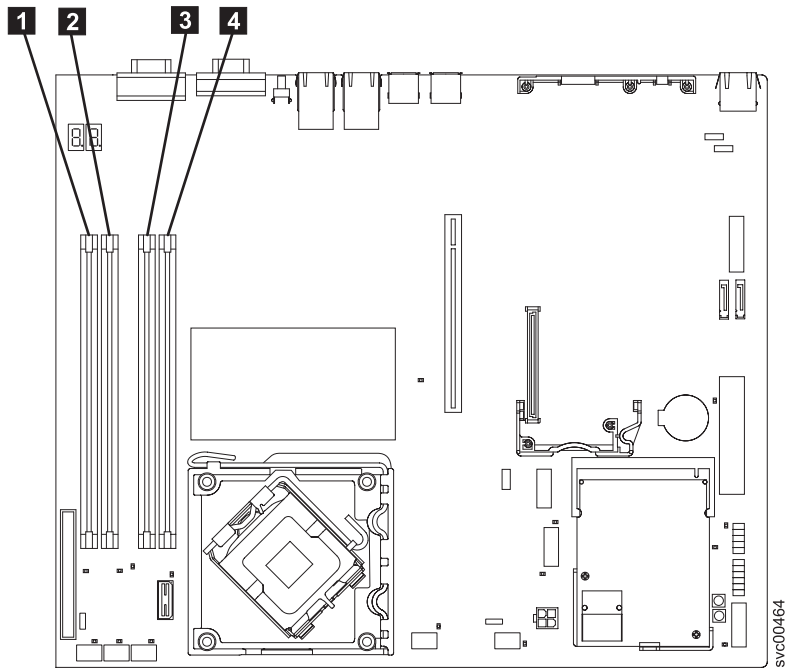

Figure 94. Locating the SAN Volume Controller 2145-8A4 memory modules
- SAN Volume Controller 2145-8A4: These modules are numbered **1** through **4**, as shown in Figure 94 on page 107.